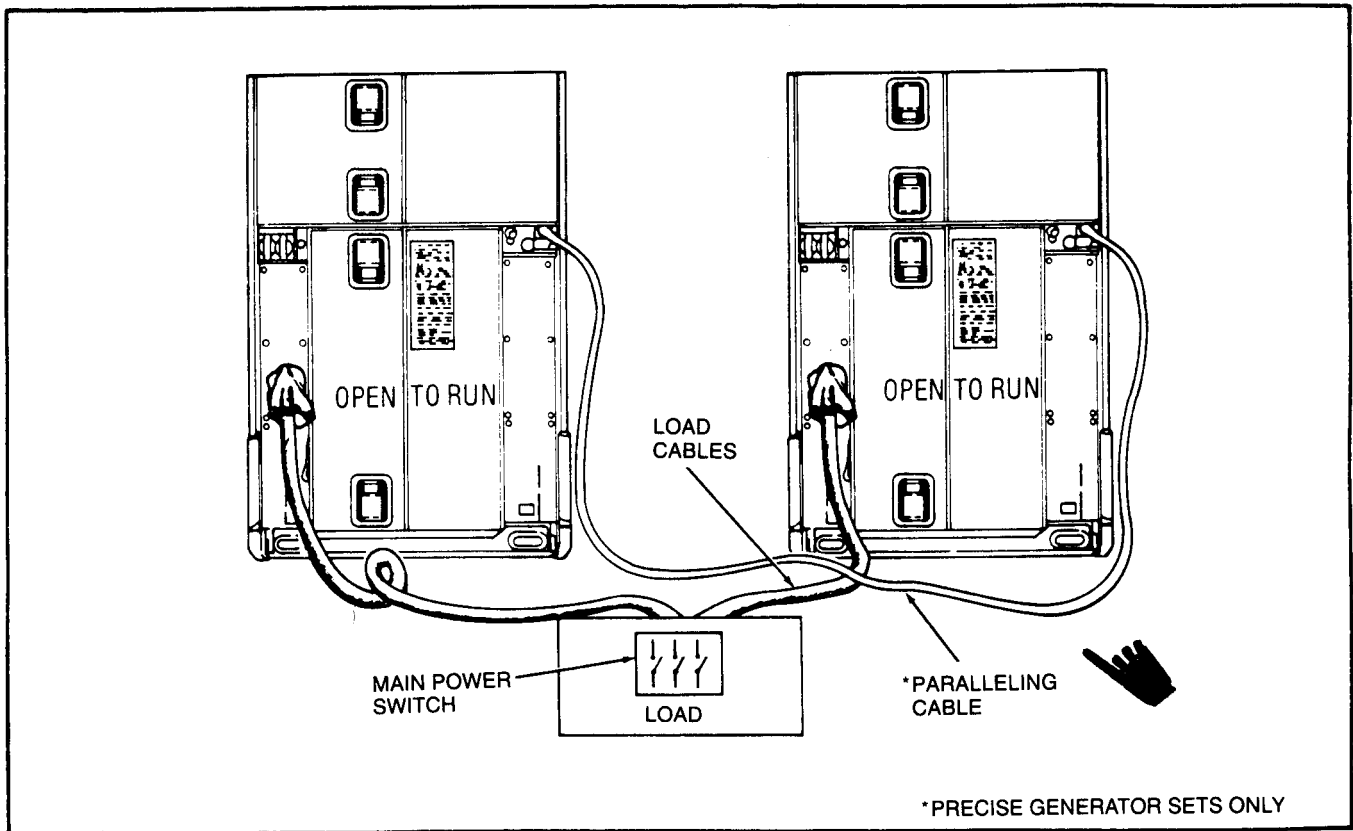

Figure 2-5. Parallel Connection
(3) Situations which require that continuous power be supplied to the load necessitate that load terminal boards of parallel generators be connected as shown in figure 2-5. This arrangement allows transfer of the load from generator set to the other without interrupting power to the load.